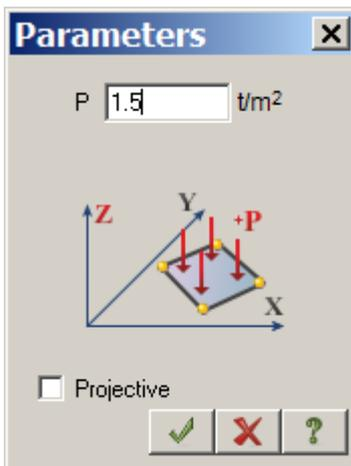

Figure 11.19 Load parameters dialog box
- ⇒ In the **Load parameters** dialog box specify $p = 1.5 \text{ t/m}^2$ (see Figure 11.19).